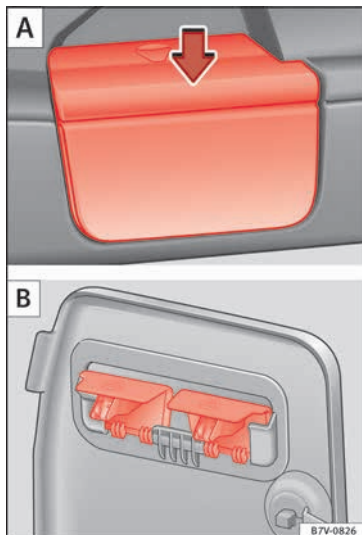

Fig. 166 Remove the shelf supports A then put them away safely B.
- Remove the shelf from the support in the side lining » » » Fig. 166 A. To do this, press the shelf upwards (arrow) and remove it.
- Open the compartment in the left-hand side boot lining » » » page 166 and hook the shelf to the rear of the compartment lid » » » Fig. 166 B.